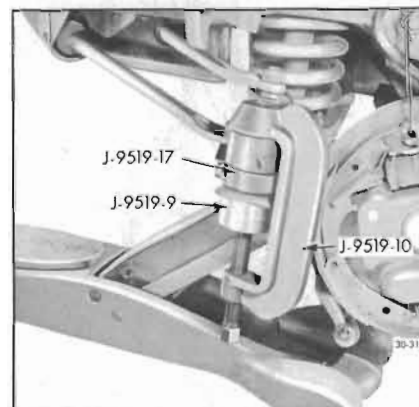

Figure 30-31—Lower Ball Joint Installer in Place
1. Position ball joint in lower control arm and install Tool J-9519 as shown in Figure 30-31.